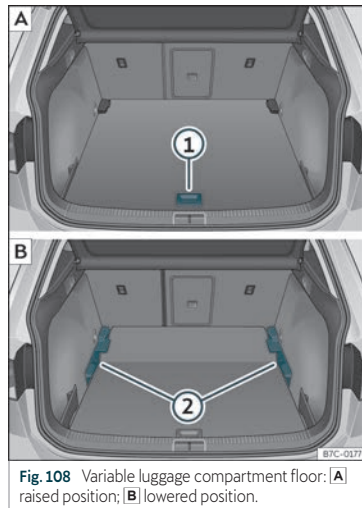

Fig. 108 Variable luggage compartment floor: **A** raised position; **B** lowered position.
- To move from the low position to the high position, lift the floor using the handle » **Fig. 108 ①**, and pull it back until the front of the floor has fully passed the supports **②**.
- Move the floor forward over the supports as far as the rear seat backrest and then lower the floor with the handle **①**.
- To move from the high position to the low position, lift the floor using the handle » **Fig. 108 ①**, and pull it back until the front of the floor has fully passed the supports **②**.
- Now let the front part fall to the floor and slide the floor forwards as far as the rear seat backrest; lower the floor at the same time with the handle **①**.
- Lift the variable floor in the high position using handle »» Fig. 108 ①, pull it up and push it towards the backrest of the rear seats until it folds along the hinge line and the movable part of the floor is resting on itself.
- To move from the high position to the low position, lift the floor using the handle »» Fig. 108 ① and pull it back a little.
- Push the variable floor towards the folded rear seats with the handle ① using some downward pressure so that the moving part of the floor is flush with the backs of the rear seats.